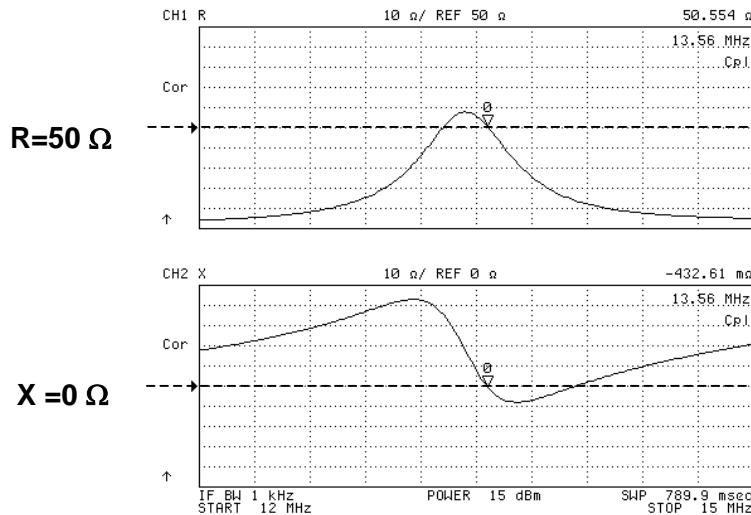

Fig. 12: The resistance (R) and inductance (X) of the antenna as a function of frequency
- Increasing the capacitance C_2 shifts the curve (see Fig. 12) for resistance R to the left, and both intersections with the 50Ω line move towards a lower frequency.
- Increasing capacitances $C_{1/1}$ and $C_{1/2}$ shifts the curve (see Fig. 12) for the impedance towards lower values.